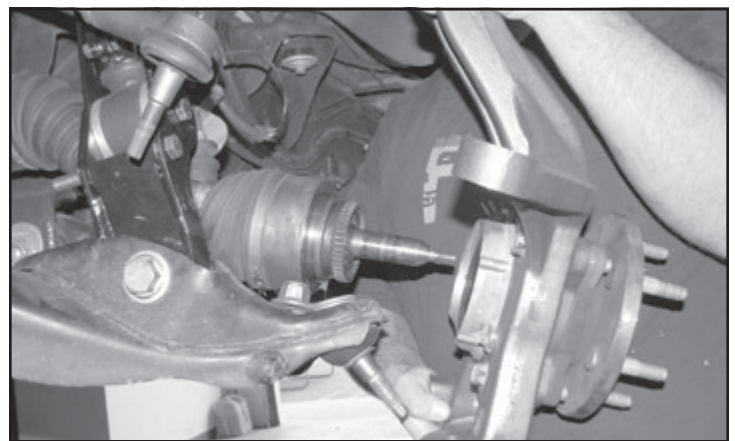

FIGURE 43 - STEP 46
46. Install the Fabtech spindle onto the upper and lower control arms. Torque the upper ball joint to 85 ft-lbs and the lower ball joint to 110 ft-lbs. **SEE FIGURE 43**